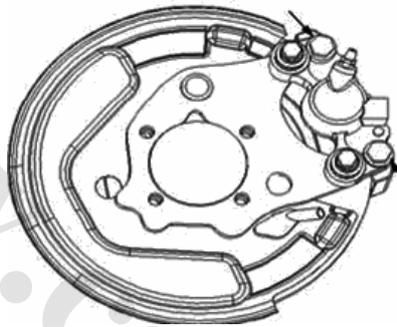

Fig. 2-70
① Install the rear disc brake slave cylinder by 2 bolts. See Fig. 2-70. Tightening torque: 34N·m.